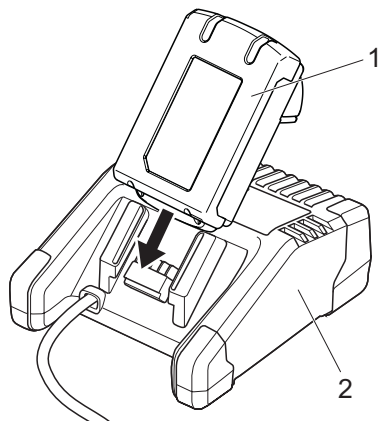

Fig. 10: Charging the battery
1. Connect charger (Fig. 10/2) to power supply.
2. Attach battery (Fig. 10/1) to battery charger.
3. Remove the battery (Fig. 10/1) from the battery charger as soon as it has reached the desired charge status.
4. After charging, disconnect the battery charger (Fig. 10/2) from the power supply.